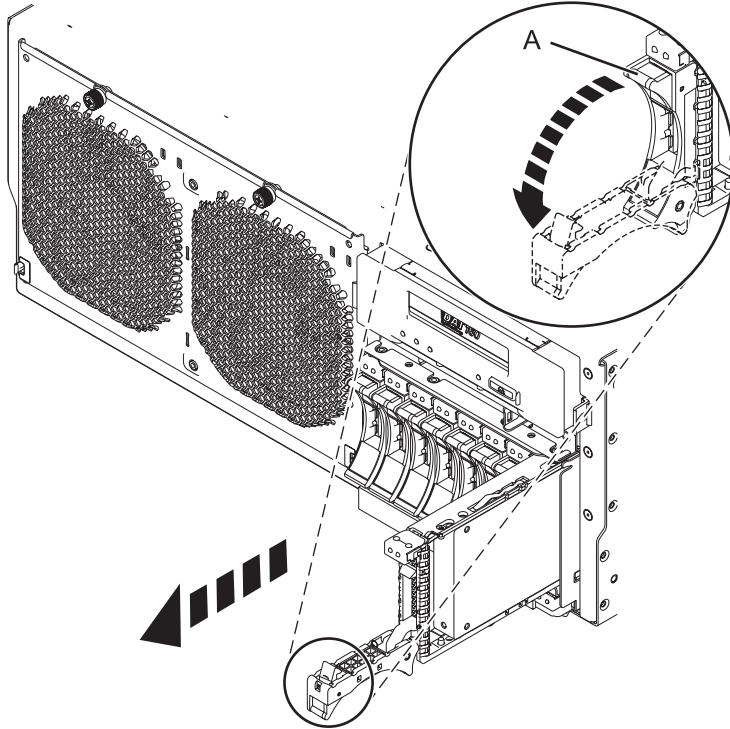

Figure 33. Removing a disk drive from the system
1. On the system, unlock the drive handle by squeezing it and pulling it out toward you, as shown in Figure 33 on page 51.